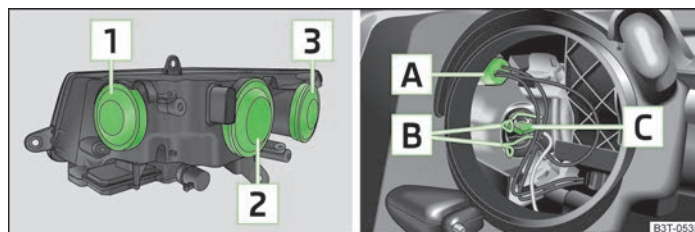

Fig. 186 Headlights: Location of the bulbs/Removing bulbs for the parking light and main beam
Overview of the location of the bulbs » Fig. 186.
- Remove the rubber cover 1 » Fig. 186.
- Remove the holder A » Fig. 186.
- › Remove the rubber cover **1** » Fig. 186.